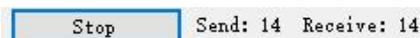

Figure 3
2. Click communication, observe until the times of sending and receiving are equal (like Figure 3), which indicating that the communication between PC and meter is normal. Other parameters can be modified at this time.